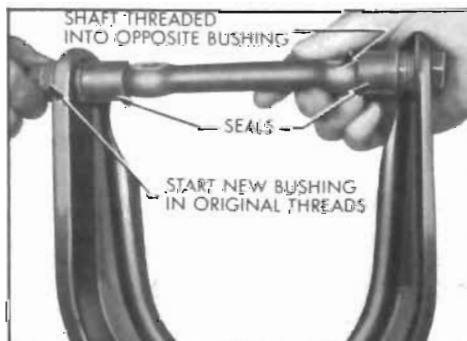

Figure 7-19—Upper Control Arm Bushing Replacement
2. Start second bushing into the upper control arm with shaft threaded into the opposite bushing. See Figure 7-19.